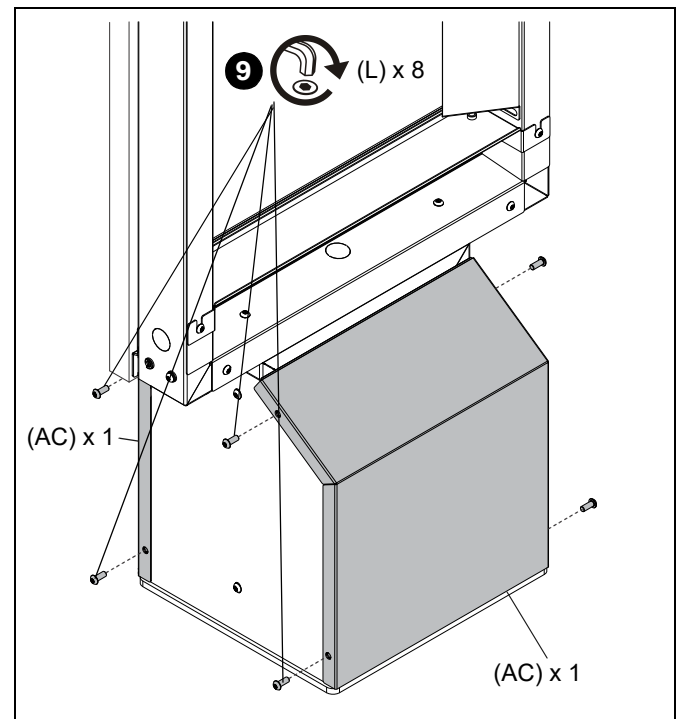

Figure 31
9. Install two large covers (AC) to the front and rear sides of the base (AA) using eight M8 x 20mm security screws (L) (four per cover). (See Figure 31)